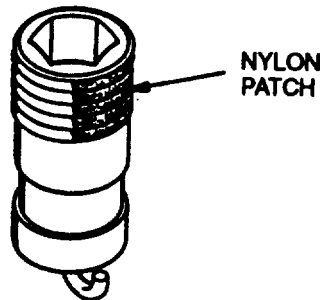

FIGURE 3-79. Vent Wire Screw Assembly
- ar. Install vent wire screw assembly (50), refer to FIGURE 3-79.